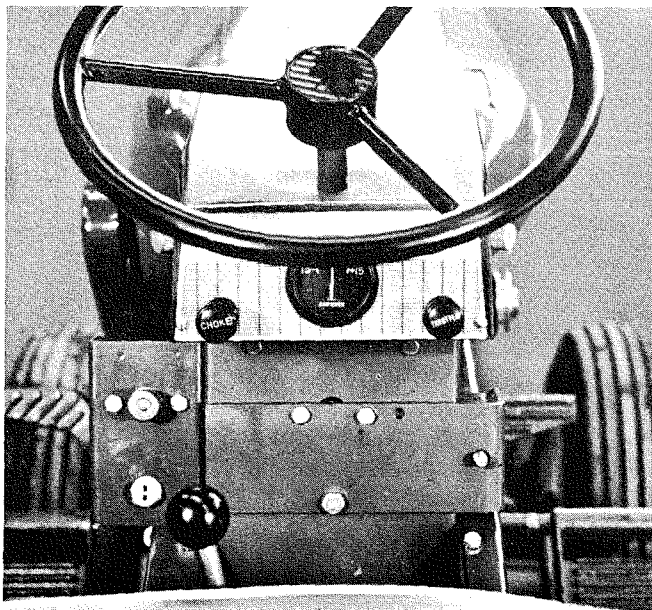

Figure 3
7. Bolt the pump mounting bracket to the hood stand using same holes where switch and starter button were removed. Using two $\frac{1}{4}$ -20 x $\frac{5}{8}$ Hex Head Cap Screws and two $\frac{1}{4}$ -20 Lock Nuts. Also the $\frac{3}{8}$ -16 x $\frac{3}{4}$ Hex Head Cap Screw and $\frac{3}{8}$ Flat Washers. See Figure 3.